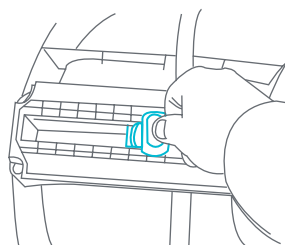

Fig. 1c
- Ensure the lever is locked into place after adjusting the height (Fig. 1c).